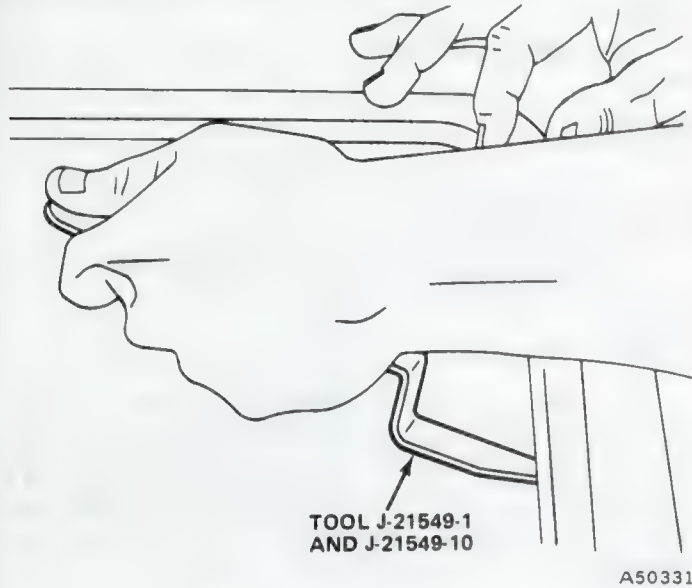

Fig. 3H-4 Removing Reveal Moulding
- (a) Insert tool between glass and moulding, parallel with glass (fig. 3H-4).